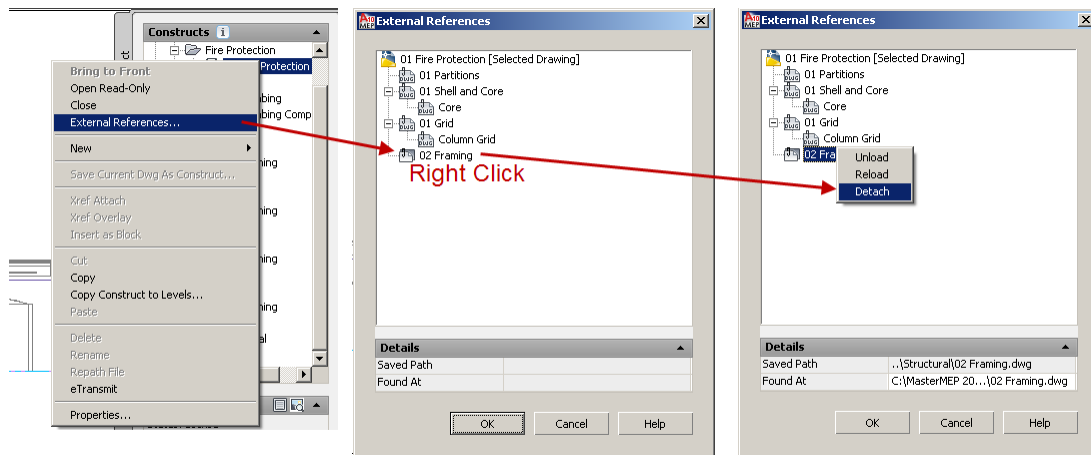

Figure 6.82
2. In the "External References" dialog, right-click on *02 Framing*, choose **Detach** — (see Figure 6.82).